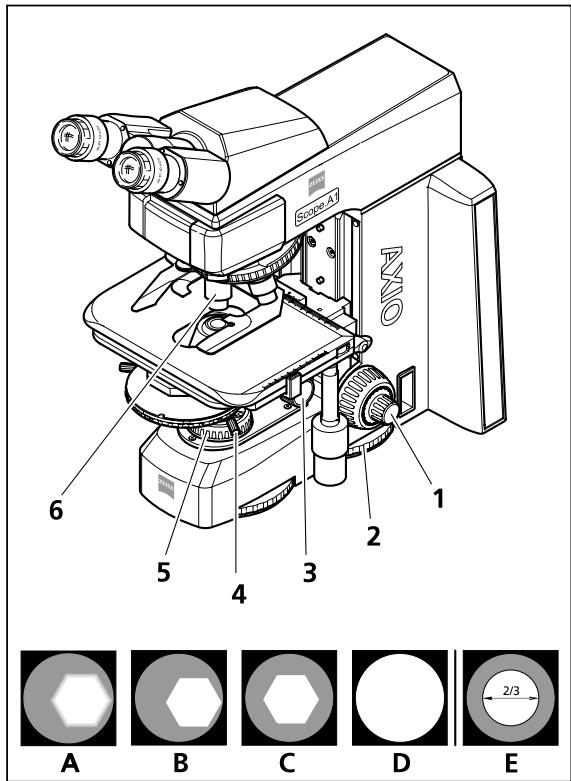
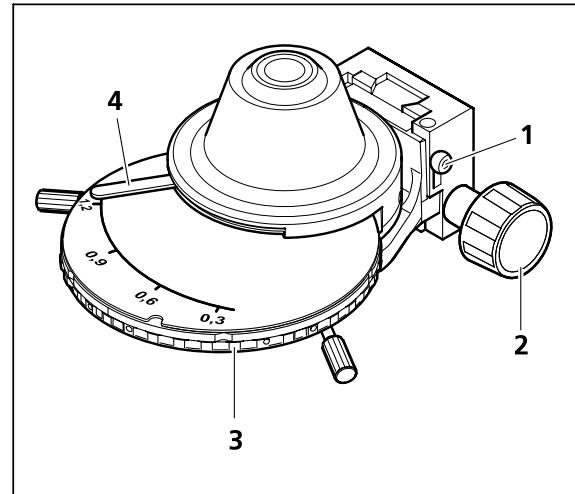

Fig. 4-1 Microscope adjustment in transmitted light/bright-field
Fig. 4-2 Adjusting the vertical stop on the condenser carrier
(3) Adjusting the transmitted light/bright-field according to KÖHLER
- Adjust image brightness with light intensity control (Fig. 4-1/2) on microscope stand.
- Bring front lens on condenser (if in use) into place (in objectives $\geq 10x$) and turn the gear knob for vertical adjustment of the condenser (Fig. 4-1/3 and Fig. 4-2/2) to the top stop. Make sure the stop is adjusted in a way to prevent the condenser from lifting out the sample (adjusting the condenser stop, chapter 4.1.1 (4)).
- On condensers with revolver/modulator disks: turn the knurled ring (Fig. 4-2/3) to position **H** (bright-field).
- Bring objective 10x in place on nosepiece (Fig. 4-1/6) and focus sample with gear knob (Fig. 4-1/1).
- Close field diaphragm (Fig. 4-1/5) enough to make it visible in field of view (even if blurred) (Fig. 4-1/A).
- Lower condenser with gear knob for vertical adjustment until edge of field diaphragm appears sharp (Fig. 4-1/B).
- Center the field diaphragm image with both centering screws (Fig. 4-1/4) on the condenser carrier (Fig. 4-1/C). Open the field diaphragm enough to make the edge of the diaphragm disappear from the field of view (Fig. 4-1/D).
- In order to adjust the aperture (contrast), take an eyepiece from the tube barrel. Looking through the barrel adjust the aperture with the adjusting lever (Fig. 4-2/4) to the size of approx. 2/3 ... 4/5 of the diameter of the objective exit pupil (Fig. 4-1/E). In most cases this aperture gives the best contrast at almost full resolution and is thus the best compromise for the human eye.
(4) Adjusting the vertical stop on the condenser carrier
- Loosen the setscrew (Fig. 4-2/1) on the vertical stop with the ball-head screwdriver SW 3.
- Close the field diaphragm and adjust the condenser vertically (Fig. 4-2/2) until you get a sharp image.
- Tighten the setscrew (Fig. 4-2/1) on the vertical stop.